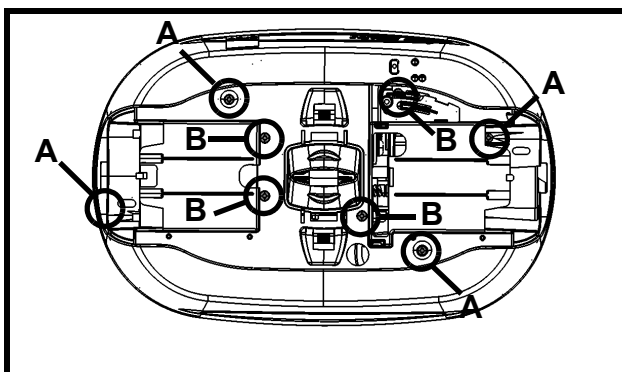

Fig. 6
- 8) Unscrew the 4 plastic screws (A) and the 4 metal tapping screws (B) with a Torx-T20 screwdriver (see Fig. 6).